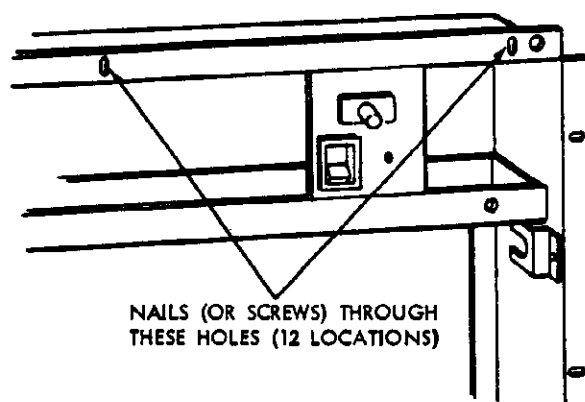

Figure 17
- b. Secure the cabinet in opening with nails, or screws, through the 12 holes provided in face of flange (figure 17), or through holes in cabinet walls.